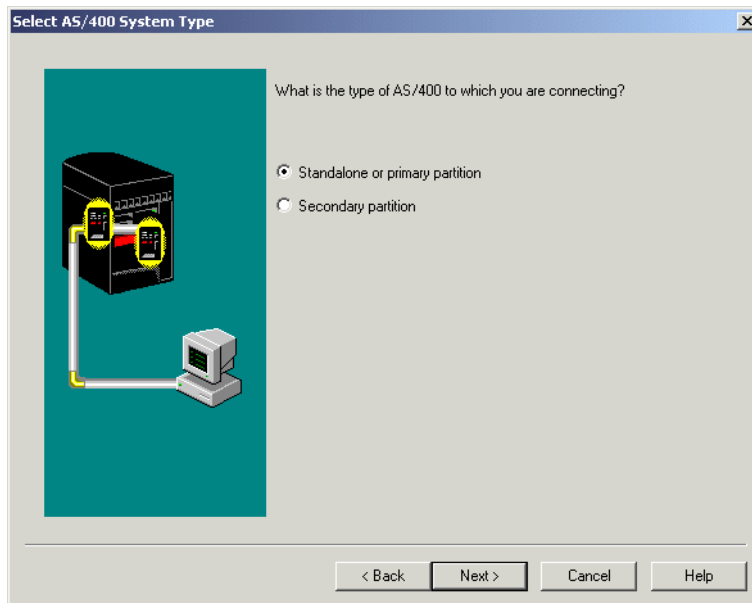

Figure 7-23 Select AS/400 System Type display
- The next panel (Figure 7-23) asks you to identify the type of AS/400 system to which you are connecting. Click **Standalone or primary partition**. Then, click **Next**.